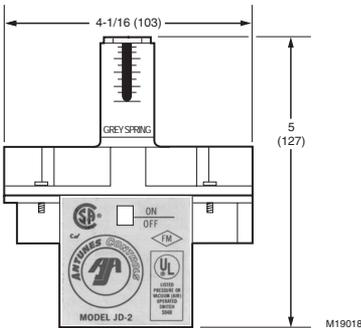

Fig. 1. SPC dimensions in in. (mm).
The Static Pressure Control (SPC) is an adjustable, single-pole double-throw differential pressure switch. It is used to control a floating-type modulating damper for bypass zone applications. Acceptable dampers are MARD and CDO-51 or the 90-second ML6161 Actuator. The contacts are rated at 125 VA. See Fig. 1.
1. Locate the SPC near the supply air ductwork. Fig. 1 shows the dimensions in in. (mm).